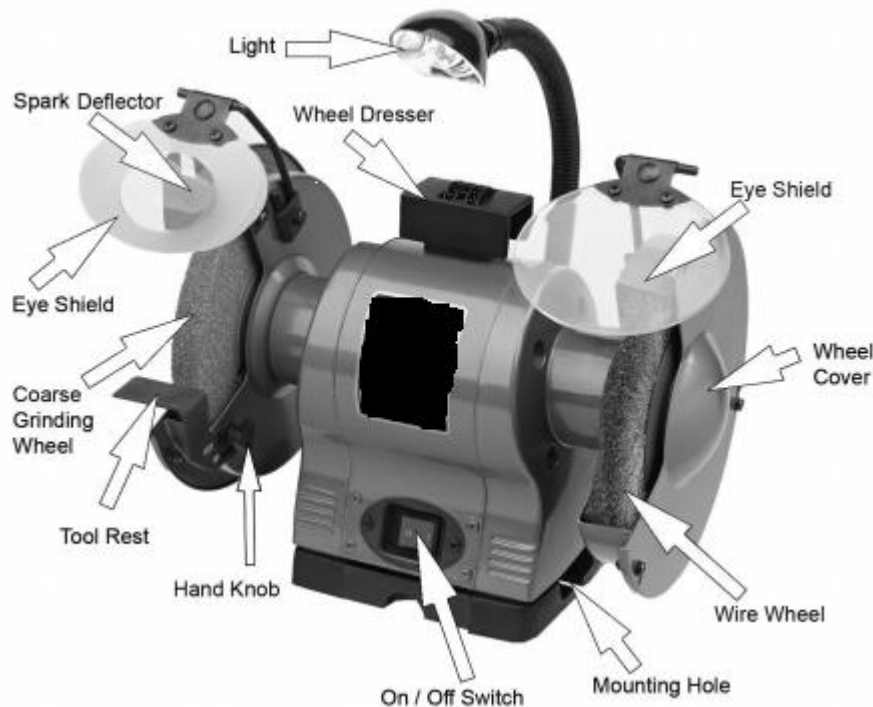

Figure 2: General arrangement of Bench Grinder
**Note: The Bench Grinder shall be supplied with coarse grinding wheel, wire wheel and all the components as per the general arrange drawing in Fig. 2 necessary for operation.**